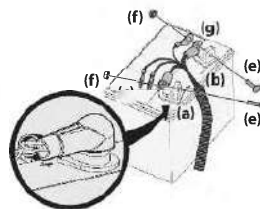

Figure 2-20
Note: The positive battery terminal is marked POS. (+) (a). The negative battery terminal is marked NEG. (-) (b). See Figure 2-20.
Note: If the positive cable grouping (c) is already attached, skip ahead to Step 6. See Figure 2-20.
3. Slide the red boot (d), if present, back along the positive cable grouping. See Figure 2-20.
4. Attach the positive cable grouping (c) and positive cable for the 12V outlet (if equipped) to the positive battery terminal (a) with the bolt (e) and sems nut (f). See Figure 2-20.
5. Position the red boot (d) over the positive battery terminal (a) to insulate it and help protect it from corrosion. See Figure 2-20.
6. Attach the negative cable grouping (g) and negative cable for the 12V outlet (if equipped) to the negative battery terminal (b) with the bolt (e) and sems nut (f). See Figure 2-20.